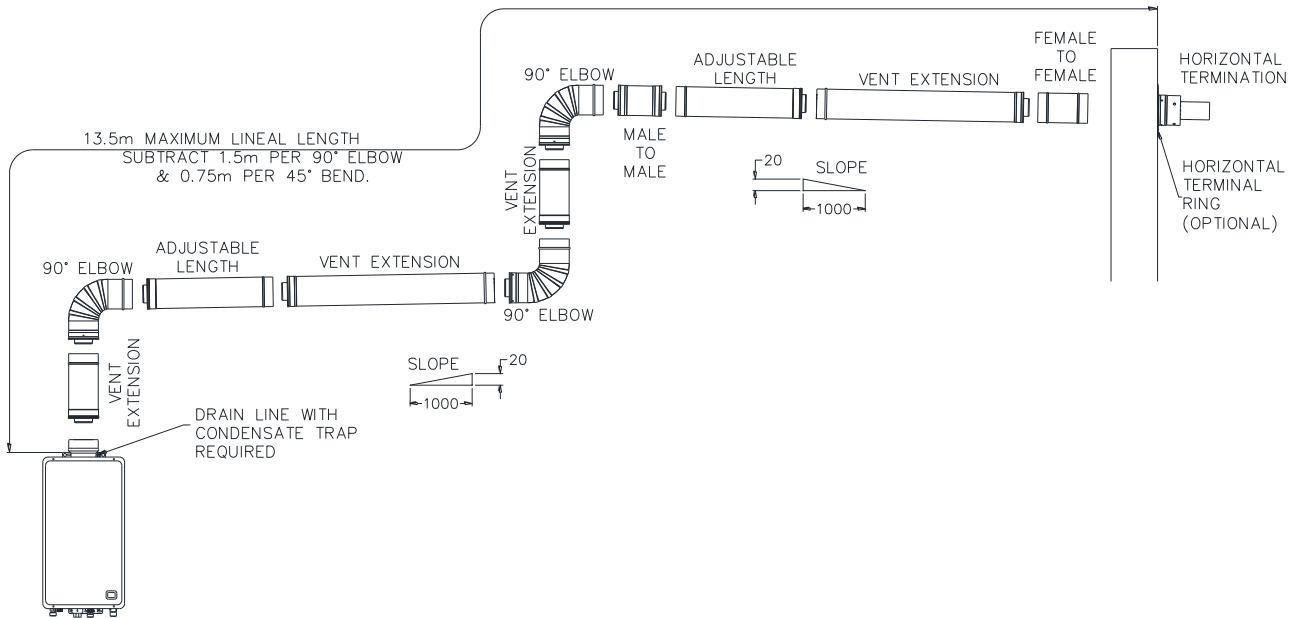

Figure 20- Typical Installation Horizontal Terminal with Multiple Vertical and Horizontal Sections
- Where there is a horizontal run of flue between two elbows and the elbow closest to the flue terminal is orientated upward. Refer to Figure 20- Typical Installation Horizontal Terminal with Multiple Vertical and Horizontal Sections on page 32. This horizontal run of flue must have a gradient upward to the flue terminal. Condensate will drain back toward the water heater.